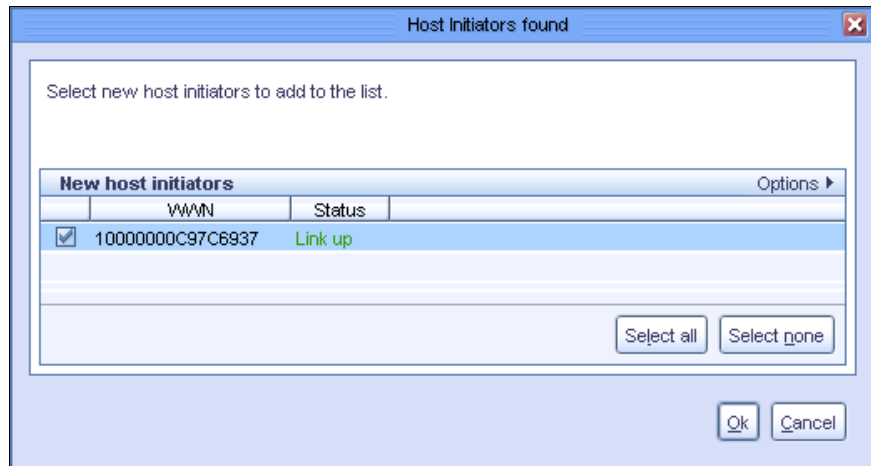

Figure 6-13 Host Initiators found window
7. Select the WWPN that you want to add to the list. Click **OK**, as shown in Figure 6-13. When the Host Initiators found window closes, we return to the Host Initiator Management window.